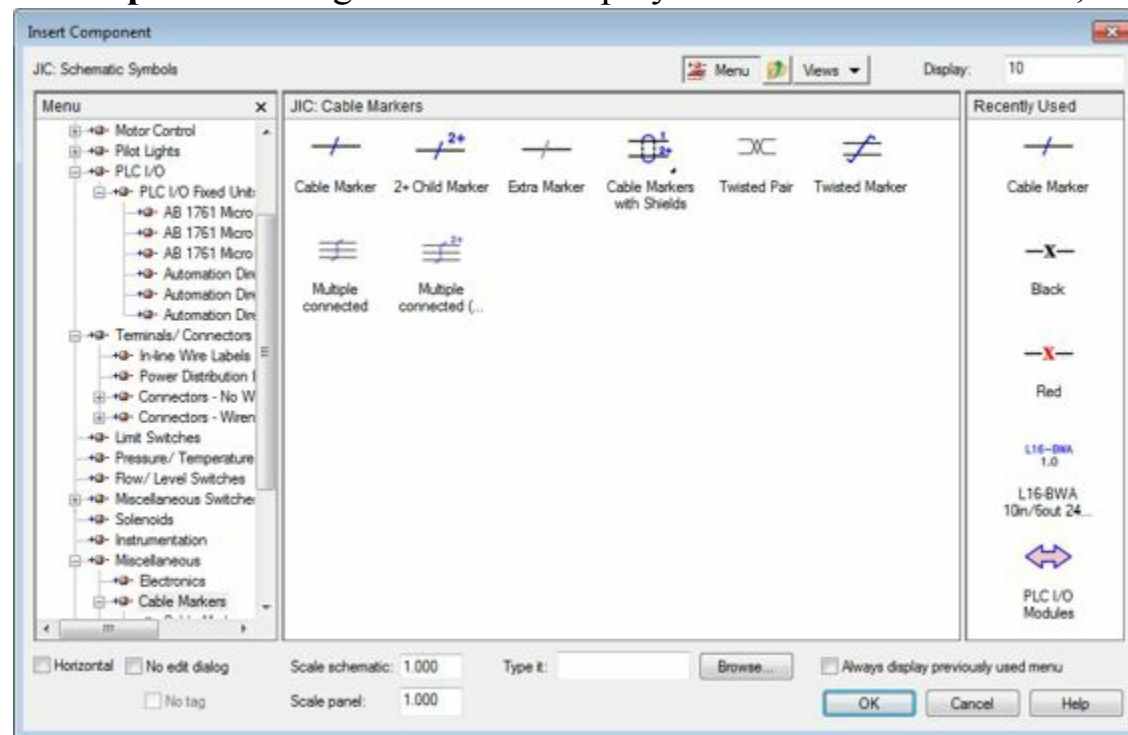

Figure-40. Insert Component dialog box with cable markers
- Click on the **Cable Markers** tool from the **Cable Markers** drop-down . The **Insert Component** dialog box will be displayed with the cable markers; refer to Figure-40.